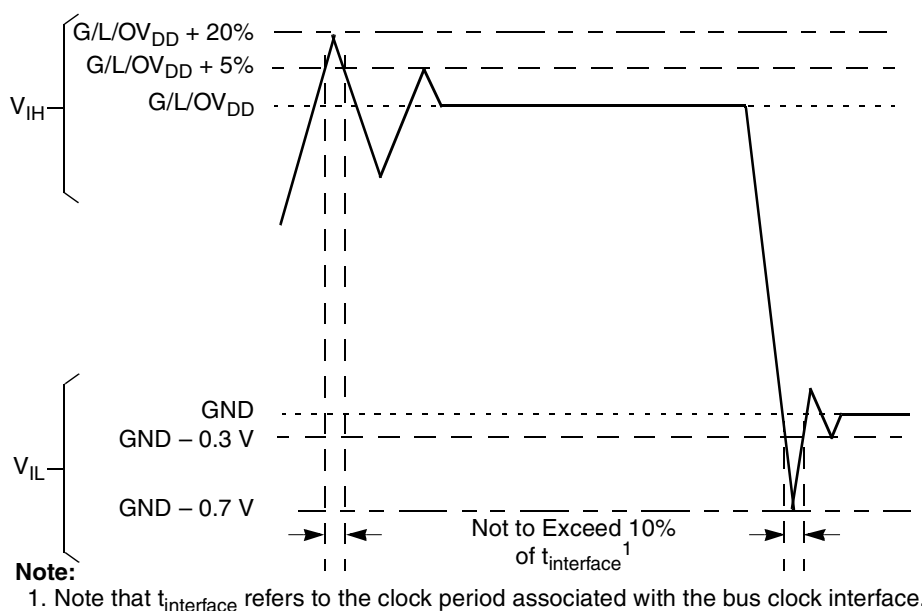

Figure 3. Overshoot/Undershoot Voltage for $G_{V_{DD}}/O_{V_{DD}}/L_{V_{DD}}$
- (M,L,O) V_{IN} and MV_{REF} may overshoot/undershoot to a voltage and for a maximum duration as shown in Figure 3.
Figure 3 shows the undershoot and overshoot voltages at the interfaces of the device.